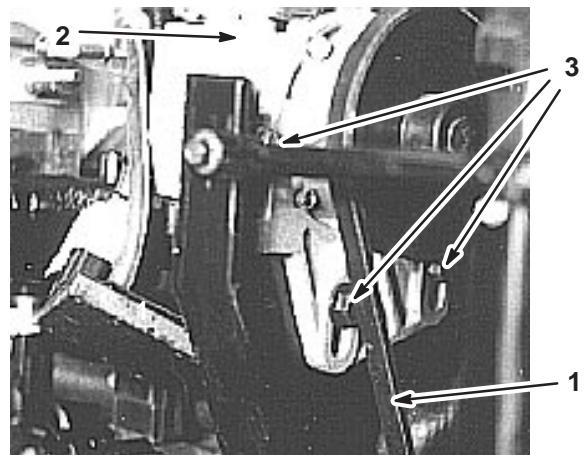

Figure 49
2. Loosen the 3 governor mounting bolts (Fig. 49).